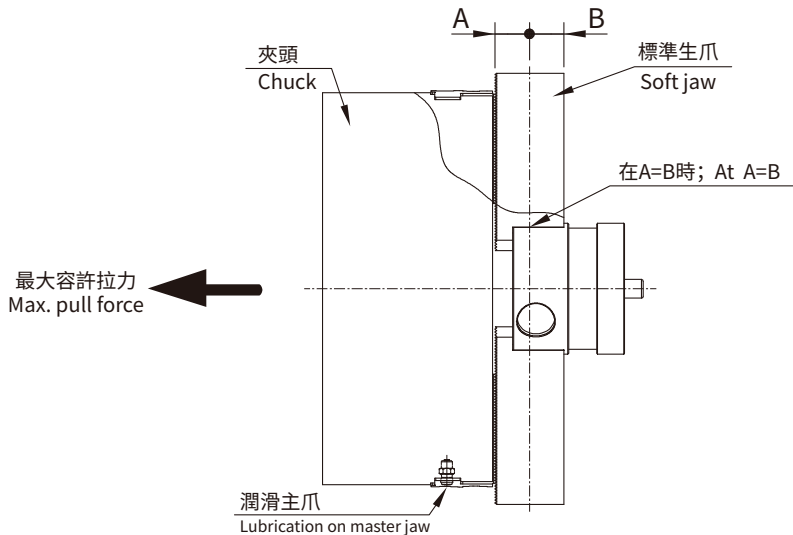

Fig.3
- 使用標準的生爪，將夾持力感測器放置於生爪高度一半的位置。(參考Fig.3)
- Using the standard top jaws, and the gripping force sensor should be clamped at half of the height of the top jaws. (Refer to Fig.3)